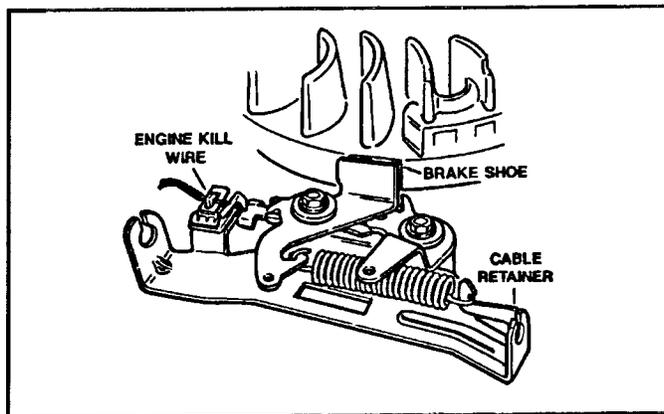

Figure 40
4. Remove the two 5/16" hex, washer head screws that retain the brake assembly to the block of the engine. See Figure 40.